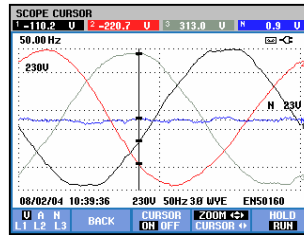

Figure 17-3. Waveform display with cursor and zoom on
- Press F4 to assign the arrow keys to Zoom operation as shown in Figure 17.3. The left/right arrow keys can be used now to stretch or shrink the waveforms horizontally. The up/down arrow keys do this in vertical direction. If the Cursor is on, horizontal zoom operates symmetrically around the Cursor. When off, horizontal zoom operates around the screen center. Vertical zoom operates around the screen center.